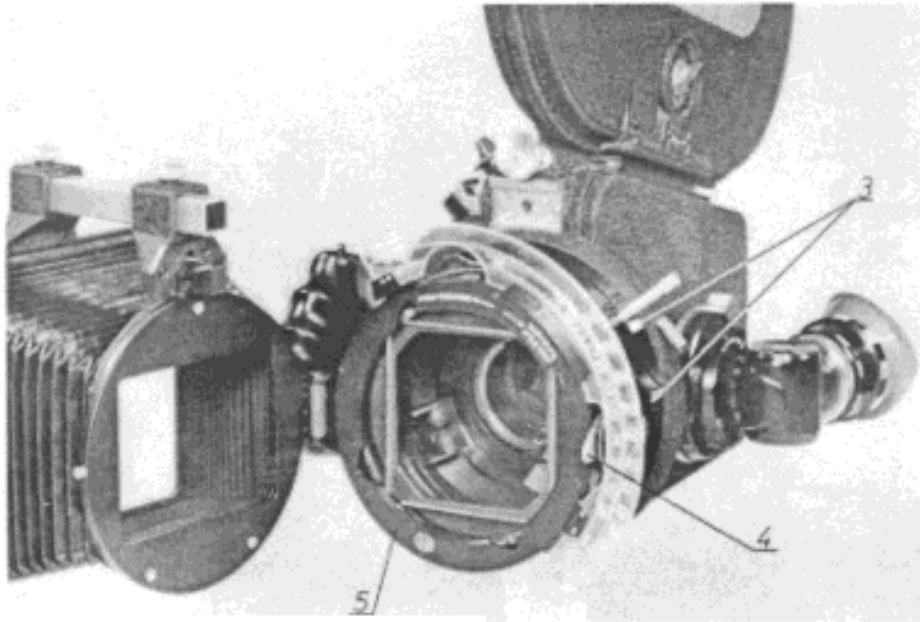

Fig. 3
11. Turn the locking ring (Fig. 1/3) to give a firm seating, loosen the. closure of the front door (Fig. 3/4), open the hinged door and remove the filter holder (Fig, 3/5) . Set focusing lever at infinity and swing out diaphragm driver (Fig. 4/7).
V. Insert the filter holder (Fig. 3/5) and close the front door (as for zoom lenses)